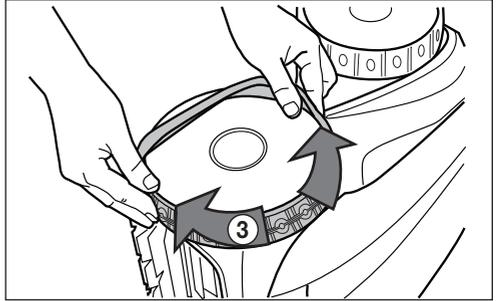

Figure 27. Work the Tyre On Around the Wheel
5. Work the tyre onto the wheel and verify the rib of the tyre is positioned properly within the groove of the wheel. See Figure 27.